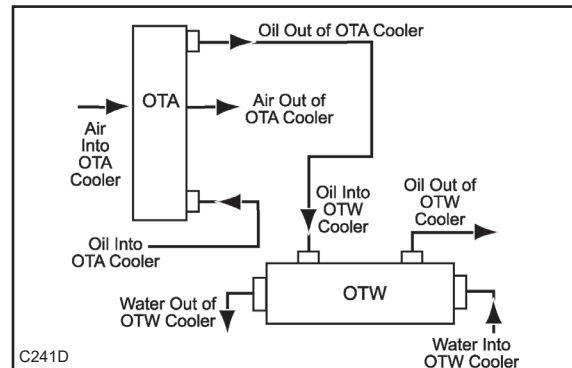

Figure 15: Coolers in Series – OTA before OTW
- Routing the oil through the oil-to-air cooler first (Figure 15) allows the oil-to-water cooler to warm the transmission oil. In cold climates, this helps to maintain the transmission's minimum sump operating temperature.